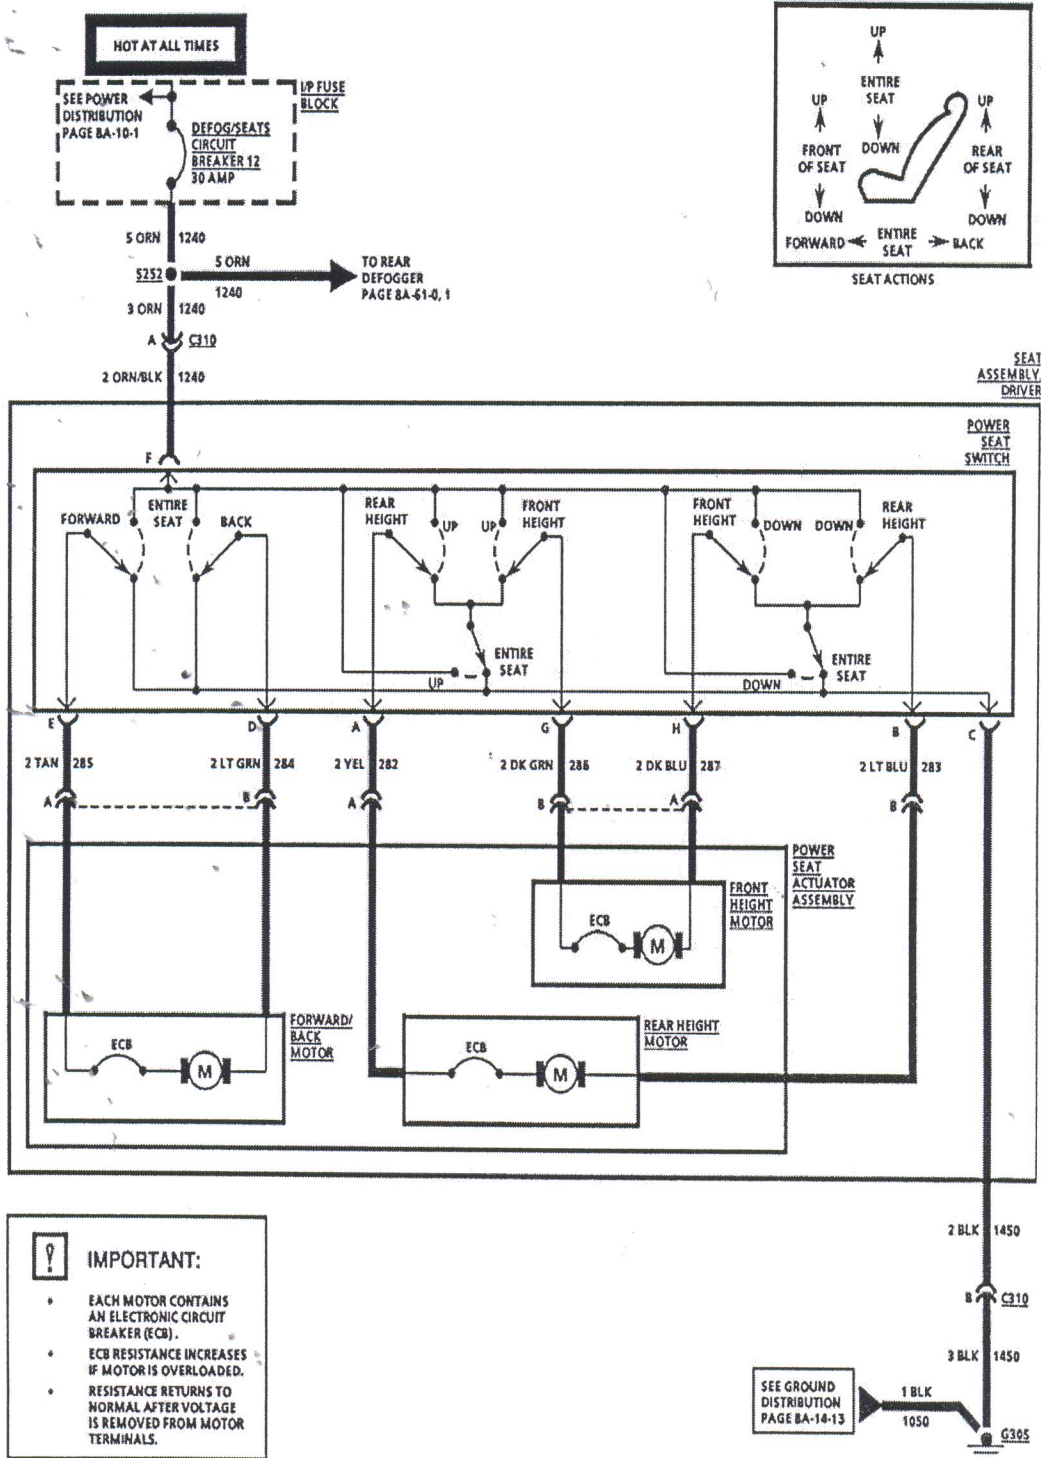

Figure 2
Please refer to **figure 2** for the seat adjustment wiring diagram.
- c. What happens to the system if the connector at ground wire (C310) in figure 2 is disconnected? State your reason.